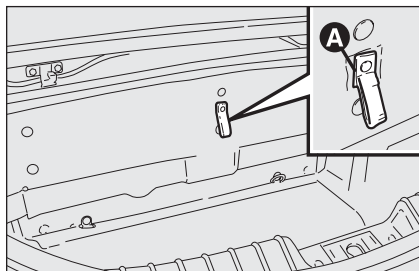

fig. 66
- ☐ pull the tab **A**-fig. 66 located on the vertical finishing of the trunk compartment in order to reach the top lock open/lock screws;